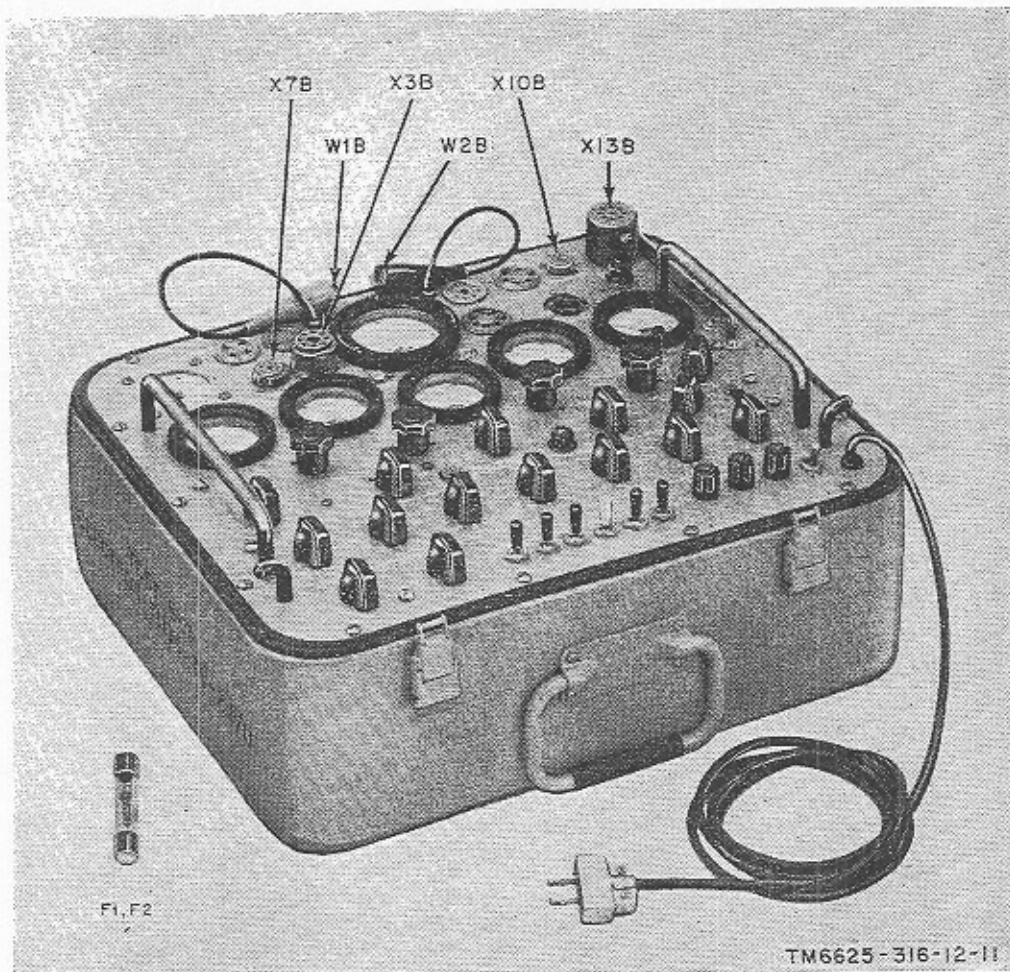

Figure 5. Panel of Test Set, Electron Tube TV-2B/U, showing location of test adapters (fuse also shown).
b. *Test Adapters*. A test adapter X13B (fig. 1) is included to provide a test socket for eight-pin, subminiature, long lead tubes. Three test adapters (fig. 5) (X3B (eight-pin octal), X7B (nine-pin noval), and X10B (seven-pin miniature)) are included with each TV-2B/U. The test adapters are installed in their corre-